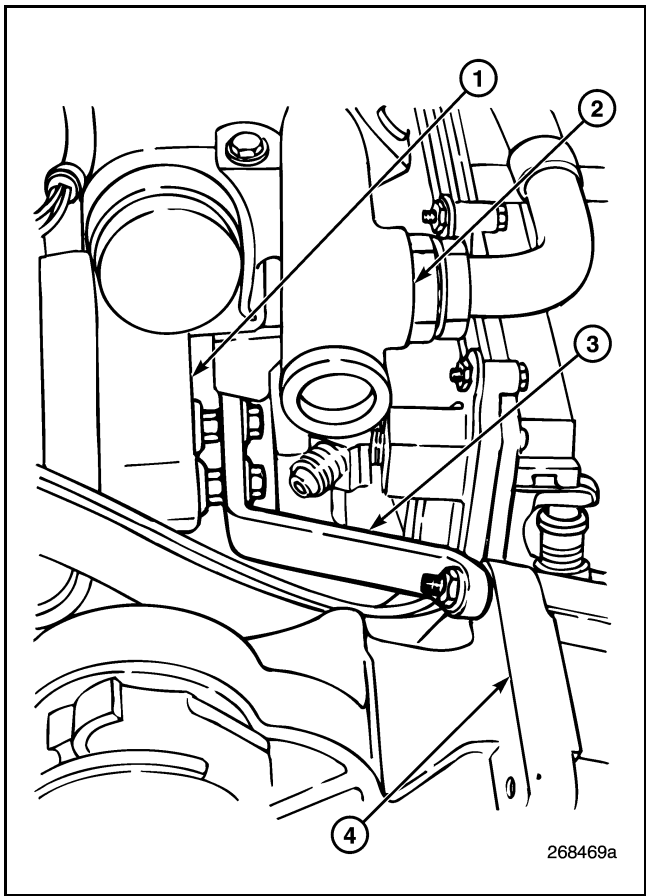

Figure 408 — Stiffening Bracket
11. Position the water pump stiffening bracket over the two studs at the forward position of the coolant manifold. At the same time, position the forward section of the stiffening bracket over the backside of the A/C compressor upper rear mounting stud. Install the three M8 flanged nuts on the stiffening bracket and tighten to 20 lb-ft (27 N•m). Refer to Figure 408.